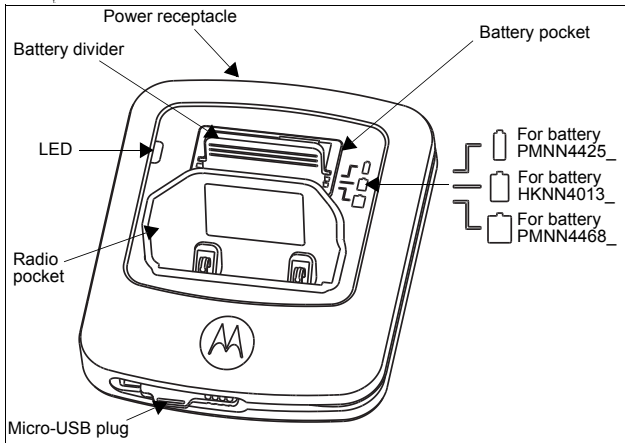

Figure 1: Tri-Unit Charger
- a. Pull out the battery divider and slide it into the slot according to the battery type to charge (See Figure 1).